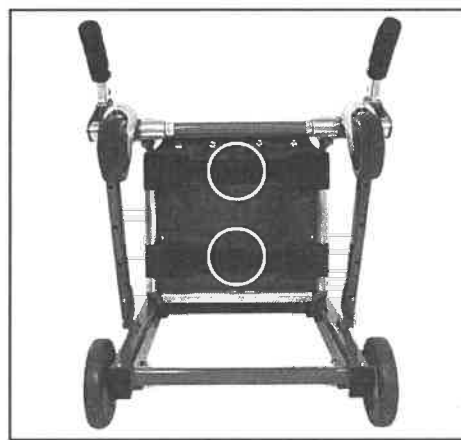

Figure 45 - Unbuckle Straps
2. Lay chair on its back and unbuckle both retaining straps beneath the seat (Figure 45).